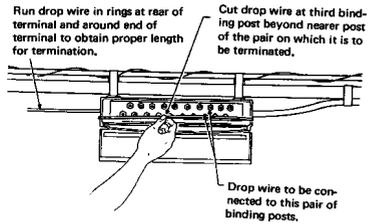

FIGURE 13. Drop Wire Termination
- 8.06 Terminate drop wires in sheath mounted terminals by cutting the wire to the proper lengths (see Figure 13).